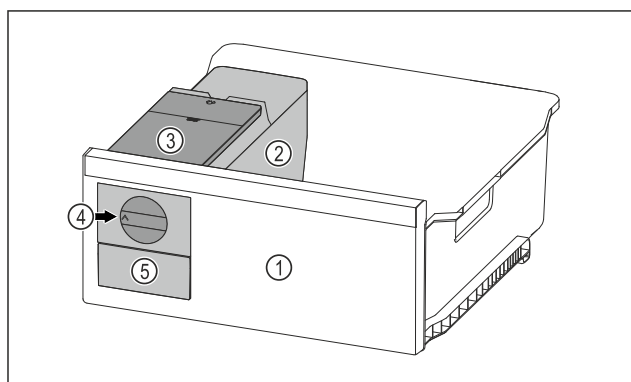

Fig. 155 Example illustration
- Turn the rotary knob Fig. 155 (4) clockwise as far as it will go.
- Ice cubes fall from the ice cube tray into the ice cube drawer Fig. 155 (5).